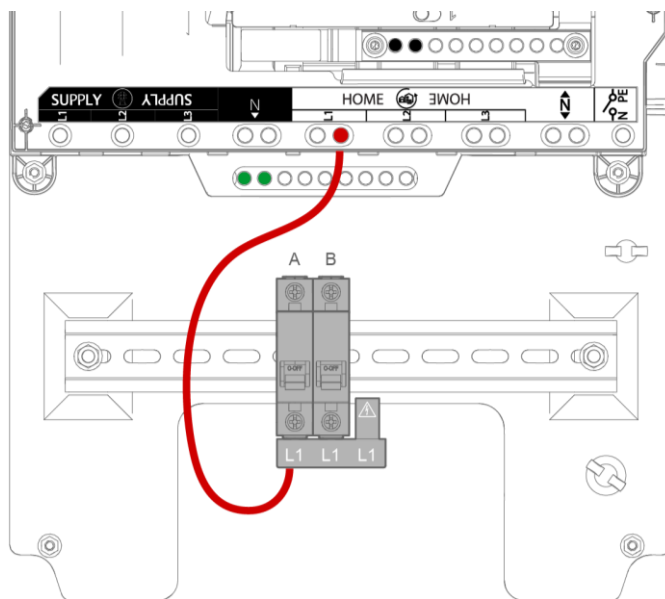

Figure 12: Single Phase Wiring Example
2. Connect the line conductors from the bussed generation circuit breakers to the Backup Gateway's Backup terminals (Figure 12). These conductors must be appropriately rated to carry the current of the main supply fuse.